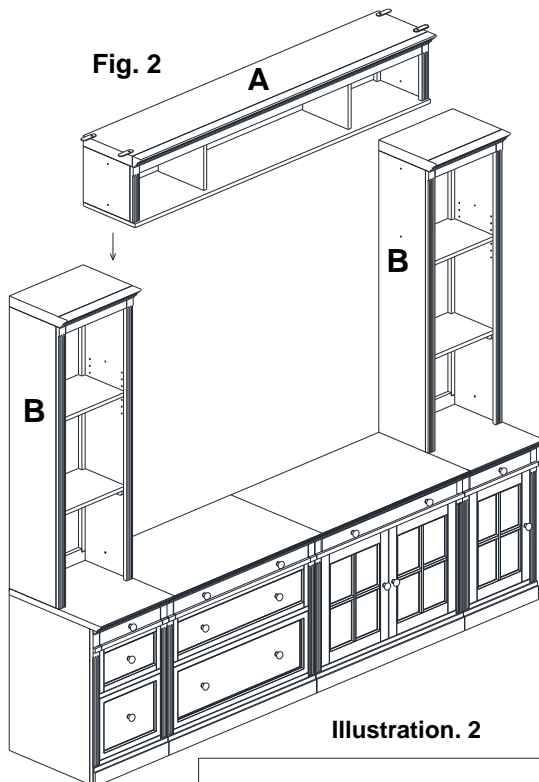

Fig. 2
- Place the Quadruple Bridge (A) in between the Single Hutches (B) by laying the mending plates pre-attached on the Quadruple Bridge (A) onto the Top of the Hutches Items as shown in **fig. 2**.